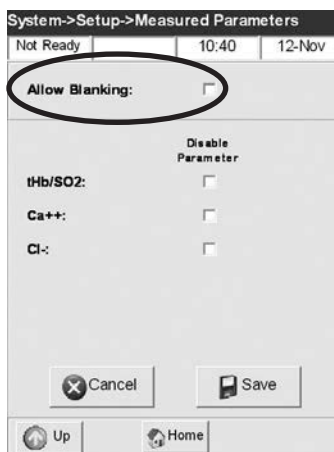

Fig. 3-18 Select Allow Blanking
3. Press **<Allow Blanking>** to allow parameter blanking (Fig. 3-18).